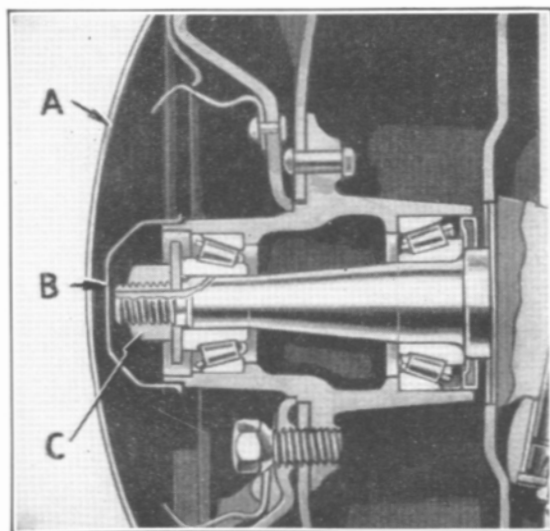

Figure 49
Remove inner and outer hub caps (A) and (B), Fig. 49, using a pry. Remove cotter pin holding nut (C). Turn nut to the right until a slight drag is felt when turning the wheel by hand. Loosen nut just sufficiently to permit wheel to turn freely. Insert cotter pin, replace hub caps and lower car to floor.